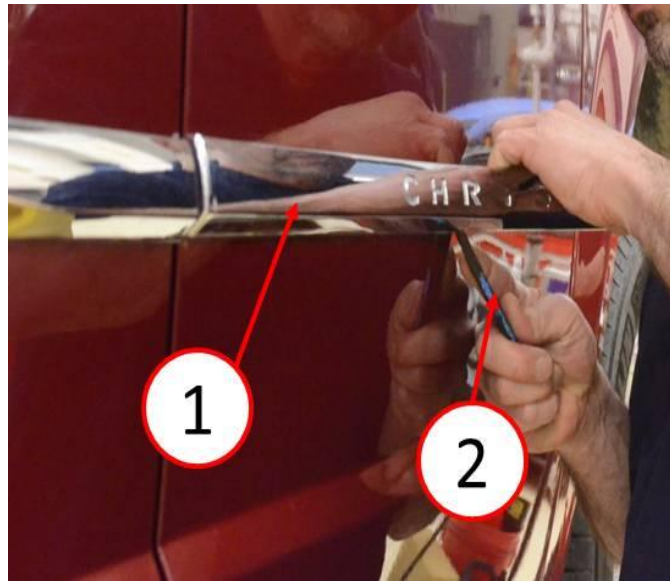

Fig. 2 Removing Right Door Molding
2. Remove the right front door molding using trim stick C-4755 as shown in \(Fig. 2\)